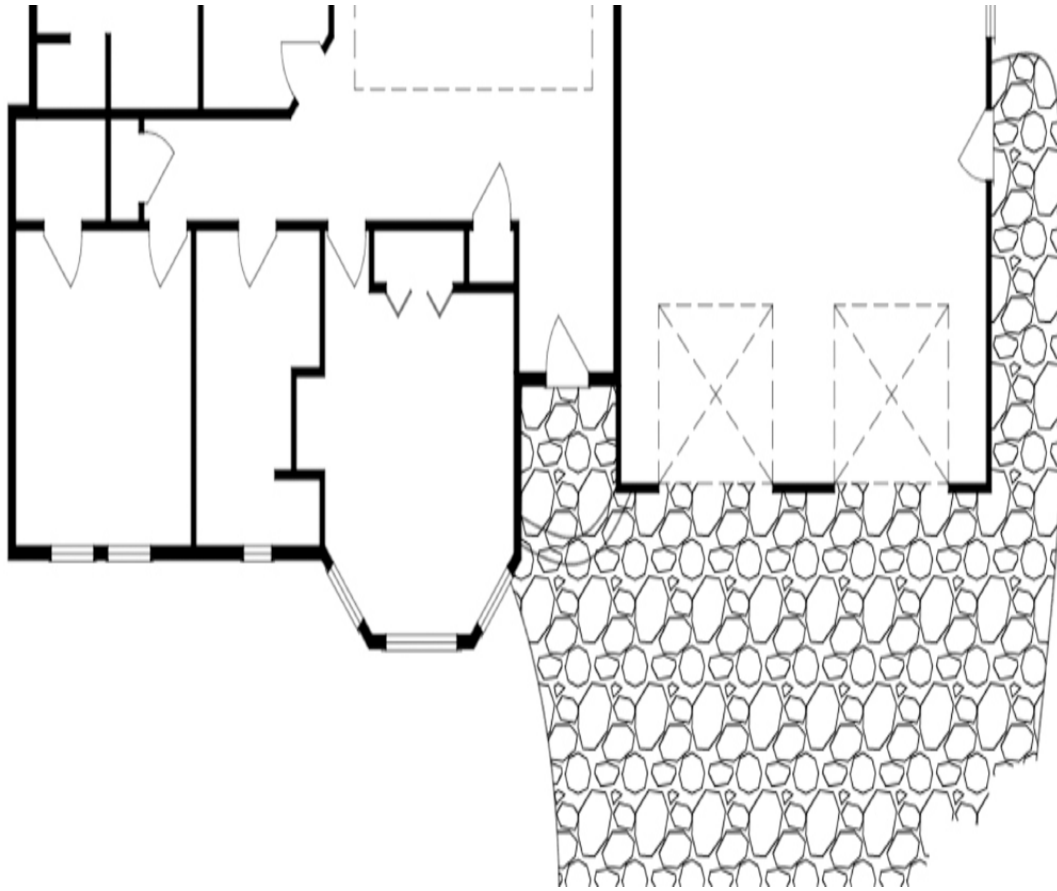

Figure 10-33
2. Hatch the patio and driveway as shown in Figure 10-33. Use the **GRAVEL** hatch pattern. Experiment with the scale and rotation angle to achieve the desired stone pattern.